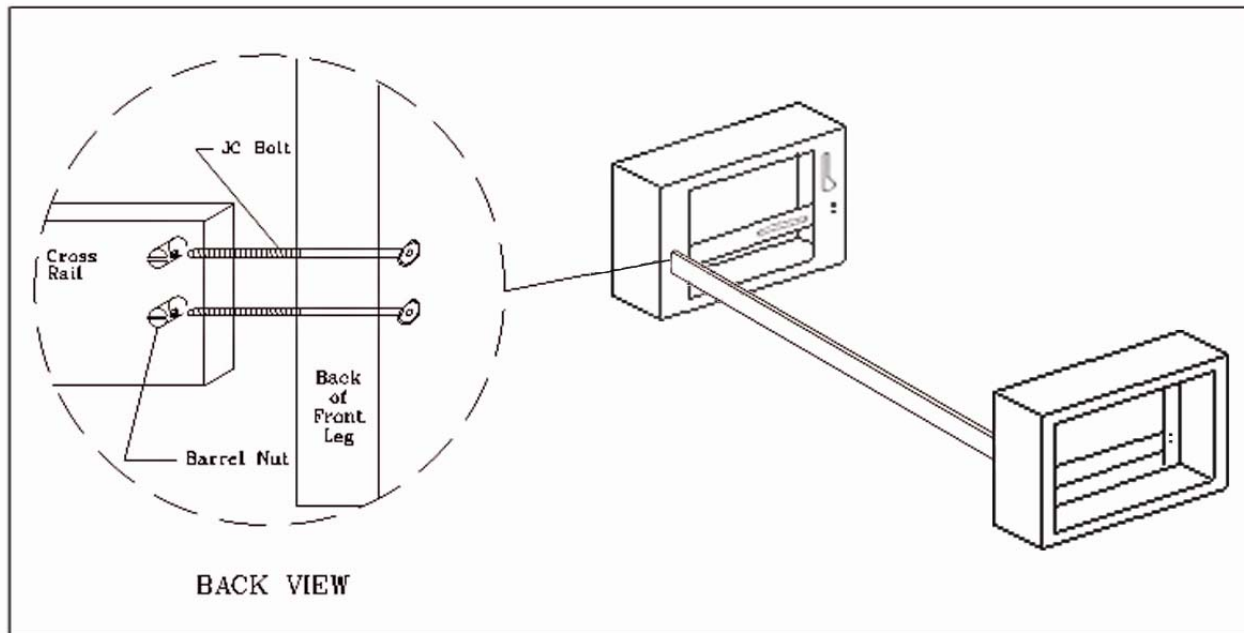

Figure 5
- 6) Locate arm assemblies and one of the cross rails. Place a barrel nut in each hole in side of cross rail. Make sure that the threaded holes in barrel nuts line up with holes in ends of rail and that the slotted end of barrel nut is exposed (Figure 5). Also, make sure that the rail marked “Front” is facing with the metal guards up and the front sticker to the inside of the frame.
- 8) Place JC bolt through top hole in outside of arm assembly’s front leg and start it into a barrel nut in one of the cross rails. Be sure slotted end of barrel nuts are toward inside of frame. **DO NOT TIGHTEN!** If bolt won’t start, use slotted screwdriver to position barrel nut. Leave about 1/4” of play. Place JC bolt through bottom hole and start it, also leaving 1/4” of play. Repeat procedure for other arm. When all four bolts are set, gently pull back legs apart just past point of armrest being parallel (Figure 5).
- 11) Tighten JC bolts in front leg. Fasten remaining cross rail to back legs of arm assembly as shown in Figure 5. Tighten securely.